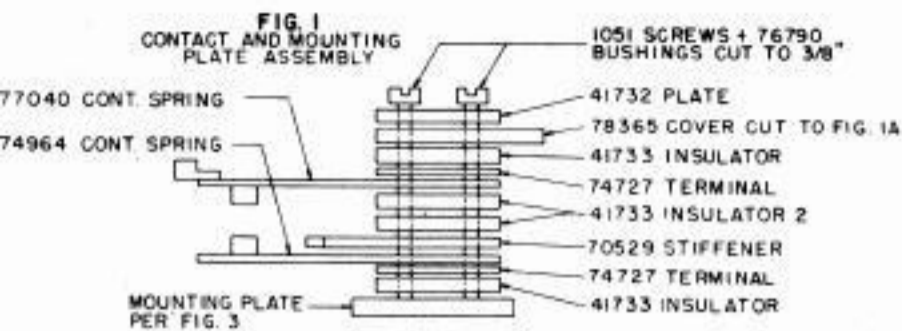

FIG. 3
- 1 special mounting plate as described in Figure 3.